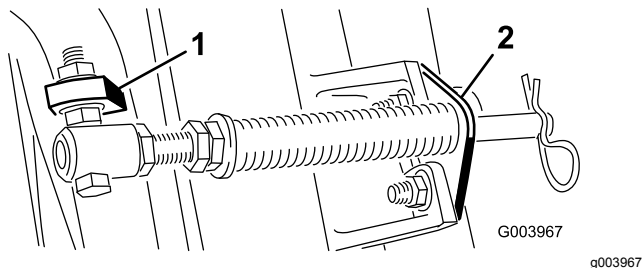

Figure 6
**Note:** Position the bolt head to the outer side of the tab as shown in Figure 6.
- D. Mount the rod bracket to the cutting-unit tabs with the carriage bolts and nuts (Figure 6).